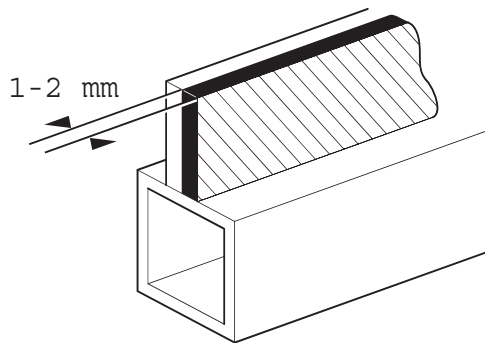

Fig 9.
- 5 If necessary, trim off the remaining old sealant to leave approximately 1 to 2 mm on the upright face of the cab frame aperture. → Fig 9. \(□ 1-9\)